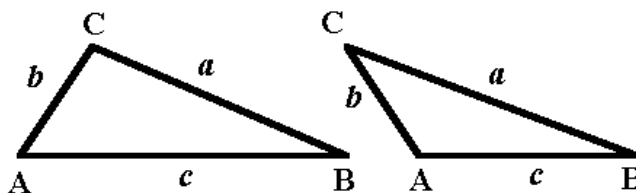

Fig. 1 – Two solutions for SSA case, a , b , & B known.
- 1) The Side-Side-Angle, SAS, case is special. See Fig. 1. This represents a solution that is ambiguous. There are two possibilities for this in the 19 cases. The answer is to calculate both solutions. John Kennedy investigated this and that is exactly what his programs do. It should be obvious that the selection logic of which equations are used on the inputs is very important.